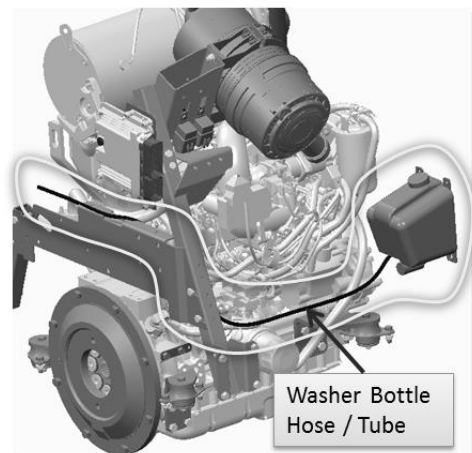

Figure 3
3. Washer Bottle Hose/Tube routed by the LH side of the engine towards the front of unit and turning right above the manifold mounting bracket towards the right corner of cab, as shown in Figure 3.